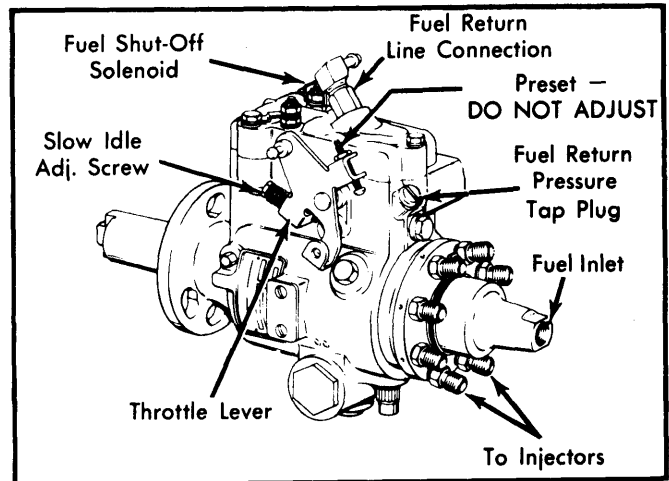

Fig. 3 Main Diesel Injection Pump
Diesel fuel, NOT gasoline, is drawn from the fuel tank by an engine mounted mechanical fuel pump. This pump is driven by an eccentric cam mounted on the crankshaft and puts out about 5½-6½ psi to the main injection pump. A small screen type filter is located in the fuel tank at the pickup. A larger sealed 11-12 micron fuel filter is located on the rear of the engine between fuel pump and main injection pump. Diesel fuel arrives at the center inlet fitting on the injection pump after leaving the filter. A fuel return line is provided to return any excess fuel to the tank. See Fig. 3.
2) Remove pressure tap plug from injector pump. See Fig. 3.